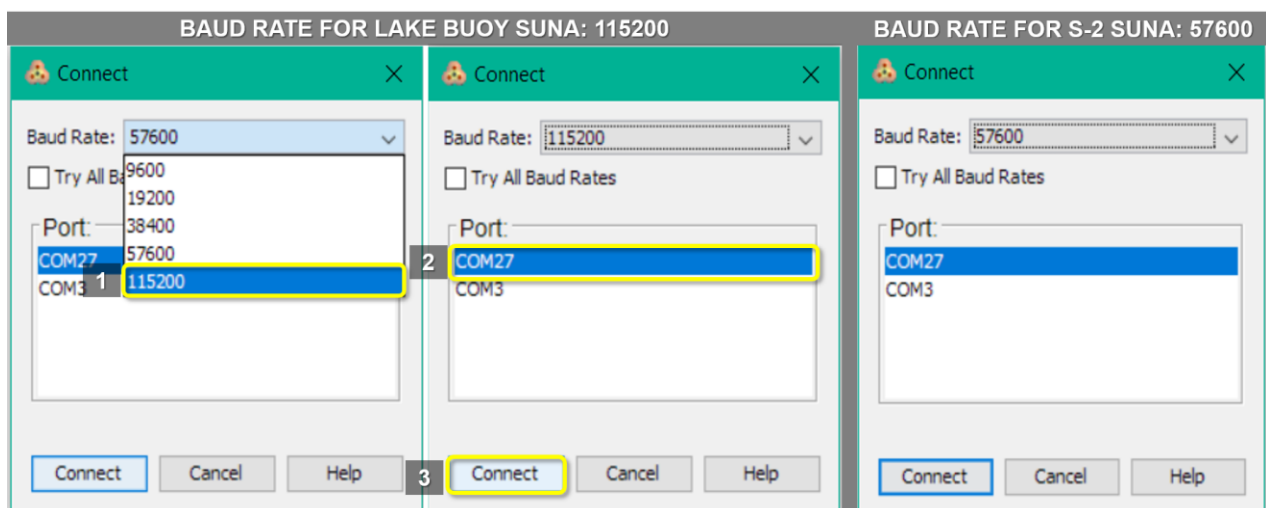

Figure 107. SUNA Baud Rate for AIS Buoy and In-Stream (S-2)
6. In the Connect pop-up window, select the Baud Rate from the drop down options (see Figure 107).